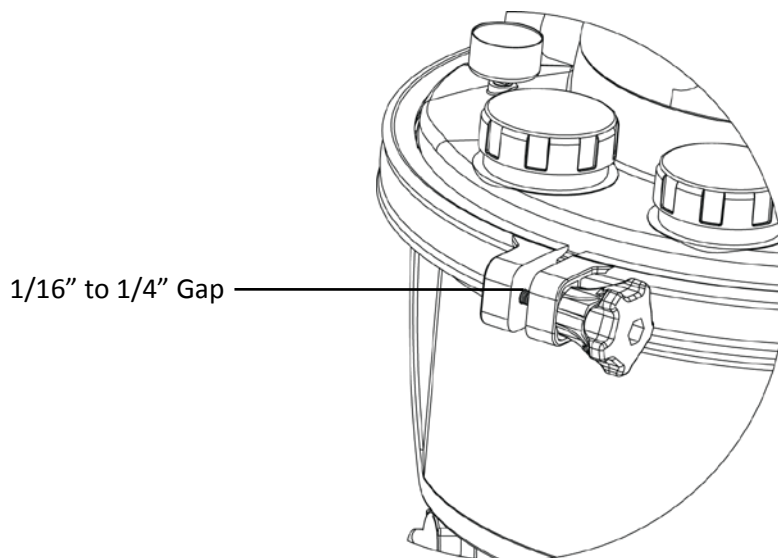

Figure 3
- b. When tight, the gap between the clamp halves at the tightening screw should be approximately 1/16" to 1/4". (See figure 3)